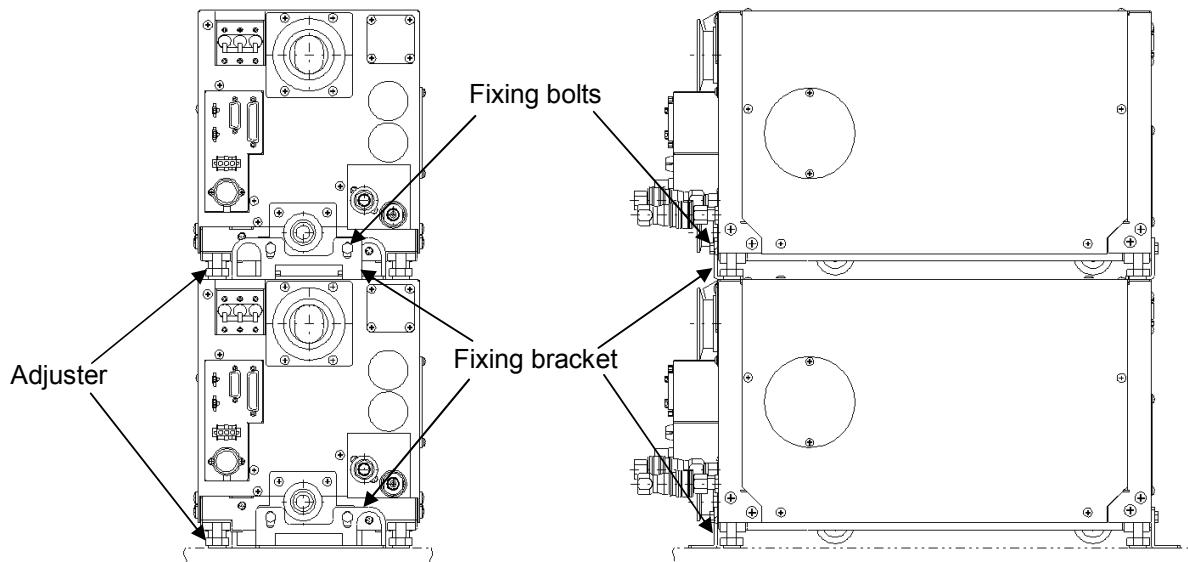

Fig. 4.2 How to stack pumps
(1) Adjust both pumps by adjuster-foot, then stack and fix them at both front and back side by the fixing bracket. Please refer to Fig.4.2
(2) Please make sure to tighten the fixing bolt enough to fix the bracket.
(3) Please fix a lower pump and the floor.